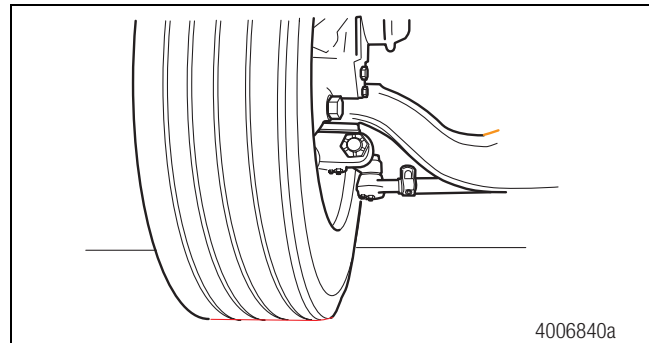

Figure 6.29
- Verify that the tires touch the ground. Do not raise the vehicle. The full weight of the vehicle must be on the axle assembly. Figure 6.29.